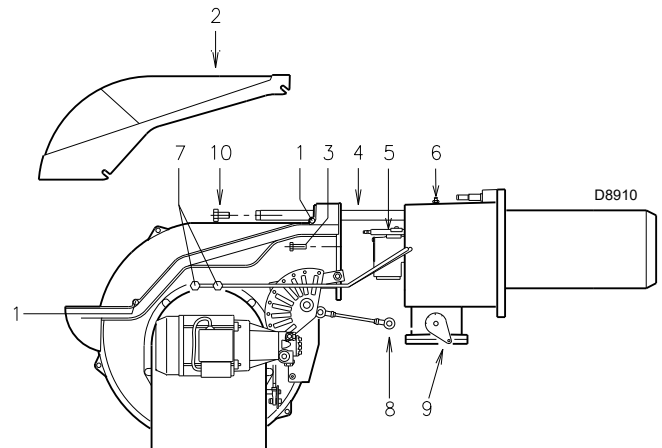

Fig. 45
- Loosen the screws 1)(Fig. 45) and remove the cover 2)(Fig. 45)
- Disconnect the light oil pipes 7)(Fig. 45).
- Disengage the articulated coupling 8)(Fig. 45) from the graduated sector 9)(Fig. 45).
- Remove the screws 10)(Fig. 45) from the two slide bars 4)(Fig. 45).
- Fit the two extensions on the slide bars 4)(Fig. 45).
- Refit the screws 10)(Fig. 45) on the extensions.
- Remove the screws 3)(Fig. 45) and move the burner backwards by about 100 mm on the slide bars 4)(Fig. 45).
At this point it is possible to extract the inner part 5)(Fig. 45) after removing the screw 6)(Fig. 45).
- Replace the screws 3)(Fig. 45) and carefully pull the probe and electrode cables outwards until they are slightly taut.
- Reconnect the articulated coupling 8)(Fig. 45) to the graduated sector 9)(Fig. 45).
- Reconnect the light oil pipes 7)(Fig. 45).
- Disassemble both slide bar extensions 4)(Fig. 45) and place them in the original position.